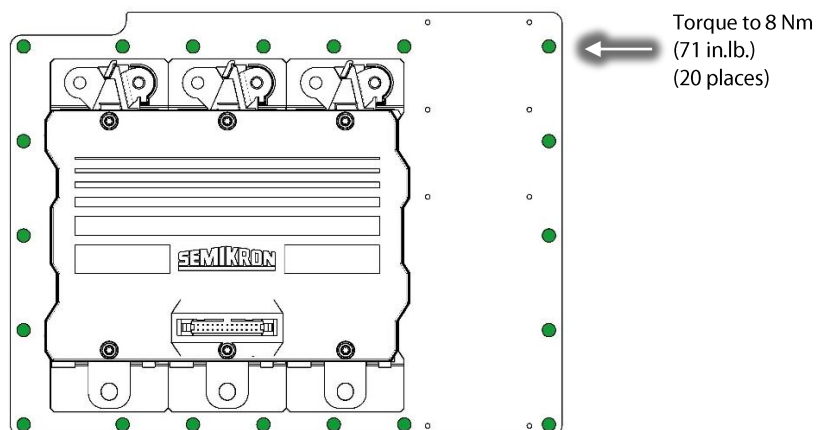

Figure 25 – Inverter Screw Locations
9. Install the provided Inverter fasteners in a diagonal pattern and torque to 3 Nm (27 in.lb.) on the first pass then to 8 Nm (71 in.lb.) on the second pass. Refer to Figure 25 (Inverter Screw Locations).